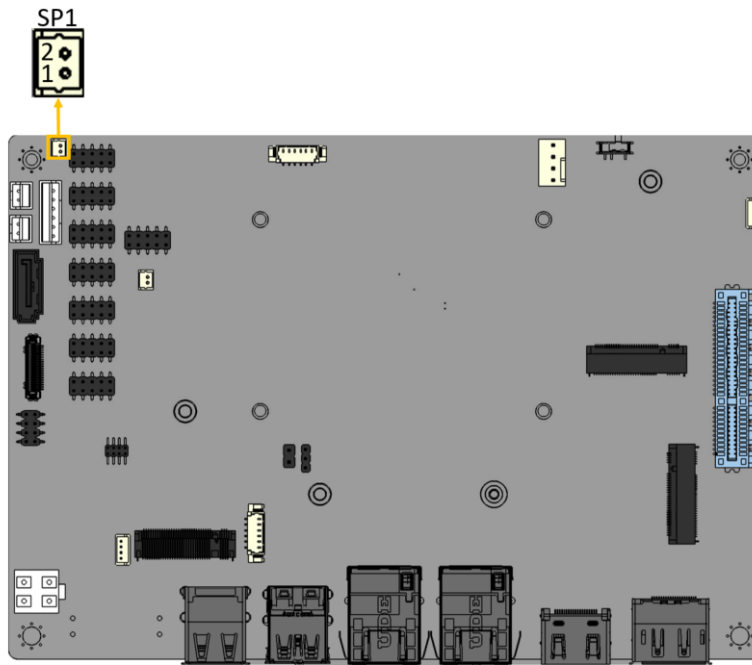

Figure 3-8: Buzzer Connector Location
- CN Location:** See **Figure 3-8**